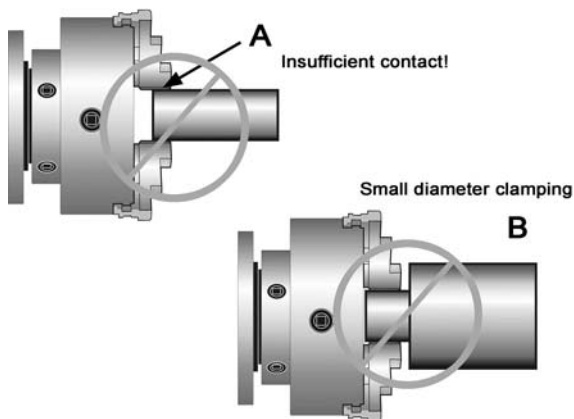

Figure 31 – Improper setups
- Avoid short clamping contact (Figure 31, A) or clamping on a minor part diameter (Figure 31, B). Face-locate the workpiece for added support.